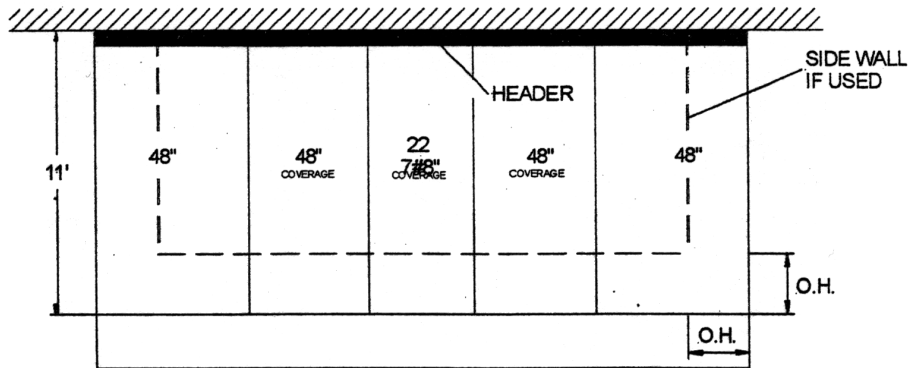

FIGURE 8 Plan VIEW FOR PANEL COVERAGE
- D. **Keep in mind that a sealant tape may be used for all these connections (see figure 8)**